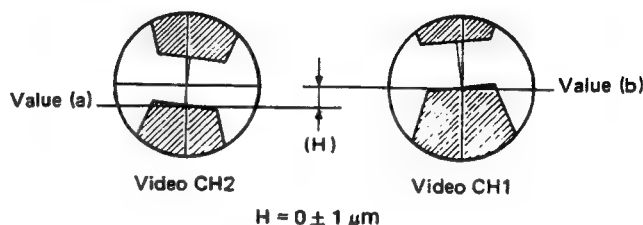

Fig. 2-60 Relative head height
3. Refer to Fig. 2-60. Read the difference (H) between (a) and (b). (One scale division is 2 microns.)